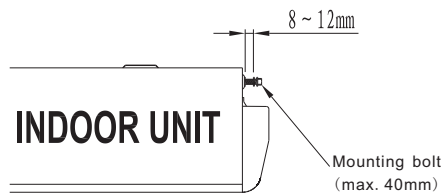

Fig16
- Prepare the mounting bolts on the unit. (Refer to Fig16)